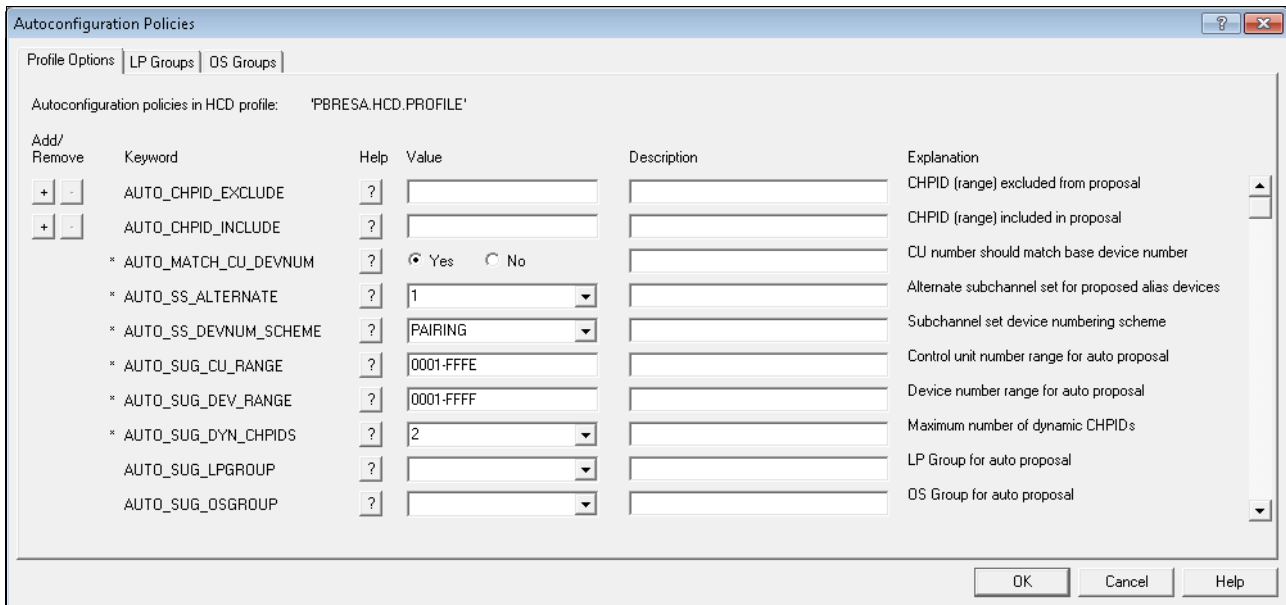

Figure 4-48 HCM - Autoconfiguration Policies: default settings
1. Click the **Profile Options** tab (Figure 4-48).